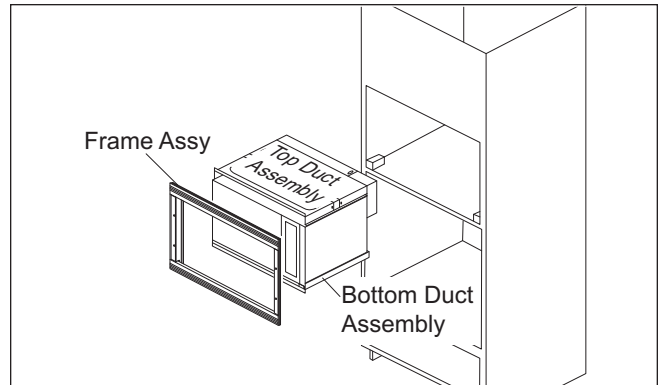

Figure 4. Placing Microwave in Cabinet Cutout
- Carefully guide the completed assembly between the bottom cleats and push the assembly back. Slide the assembly approximately 1/4" to the right of the center of cabinet opening to allow proper clearance for microwave door to open and close. When both top and bottom ducts are assembled and correctly placed, their flanges will be tight against the top and bottom outer edge of opening (See Figure 4).